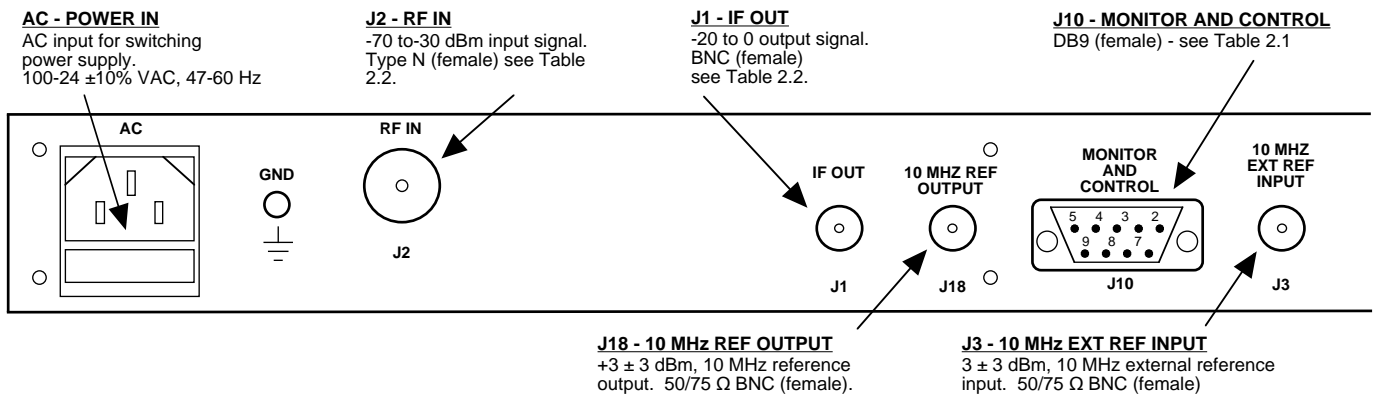

FIGURE 2.2 2016-57 Rear Panel I/Os
Figure 2.2 shows the input and output connectors on the rear panel.
1. Connect a -70 dBm to -30 dBm signal to RF IN, J2 (Figure 2.2)